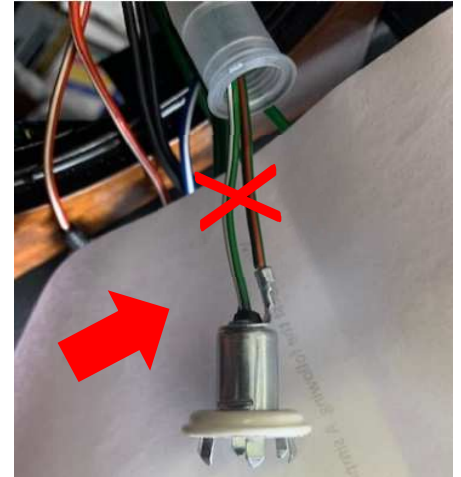

Fig 5
3. Leaving a length of wire on socket, cut socket out. Fig. 5